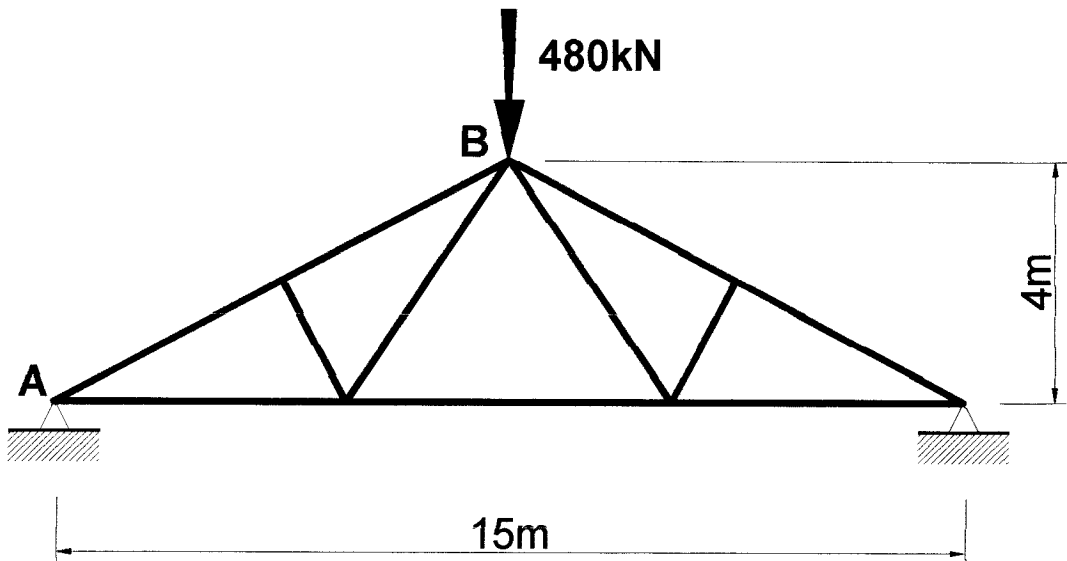

Figure Q1
1. Figure Q1 shows a simply-supported welded truss, subject to the factored loading shown. Out-of-plane lateral support is provided at all loading and support nodes.